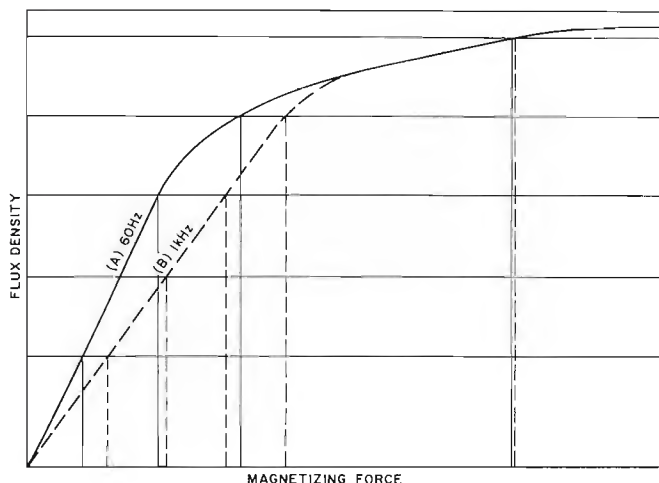

Fig. 9. Transformer core magnetization curves for two frequencies.
Another, more flexible method of softening the clipping at low frequencies involves the audio transformers. Fig. 9 shows the magnetization curves of a transformer core at middle and low frequencies. Note that the curve (A) is similar to the curve in Fig. 4B. When overload occurs at low frequencies, then, the waveform is rounded off instead of being sharply clipped. In class-B transistor amplifiers, non-linear *beta* will also serve this same purpose. However, this method may also result in high distortion at lower levels. Whatever method of overload characteristic modification is used, it is clear that the amplifier design certainly cannot stop at the clipping point.